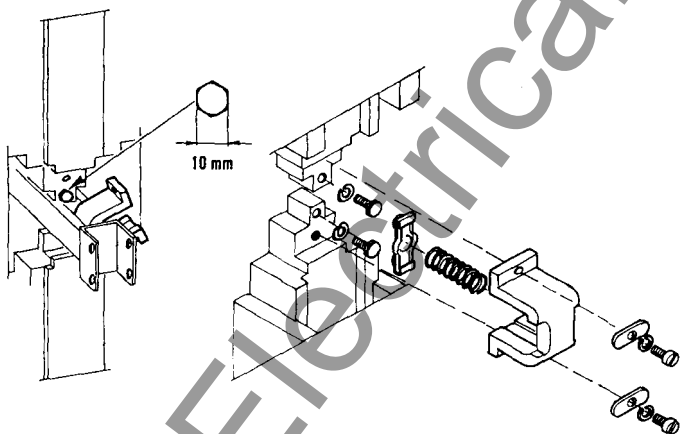

FIG. 8 — DAMPER CONTACT RENEWAL
4. Remove contact guide bracket, return spring and movable contact by removing the 2 mounting screws. See Fig. 8. Tilt the guide bracket as shown to remove.